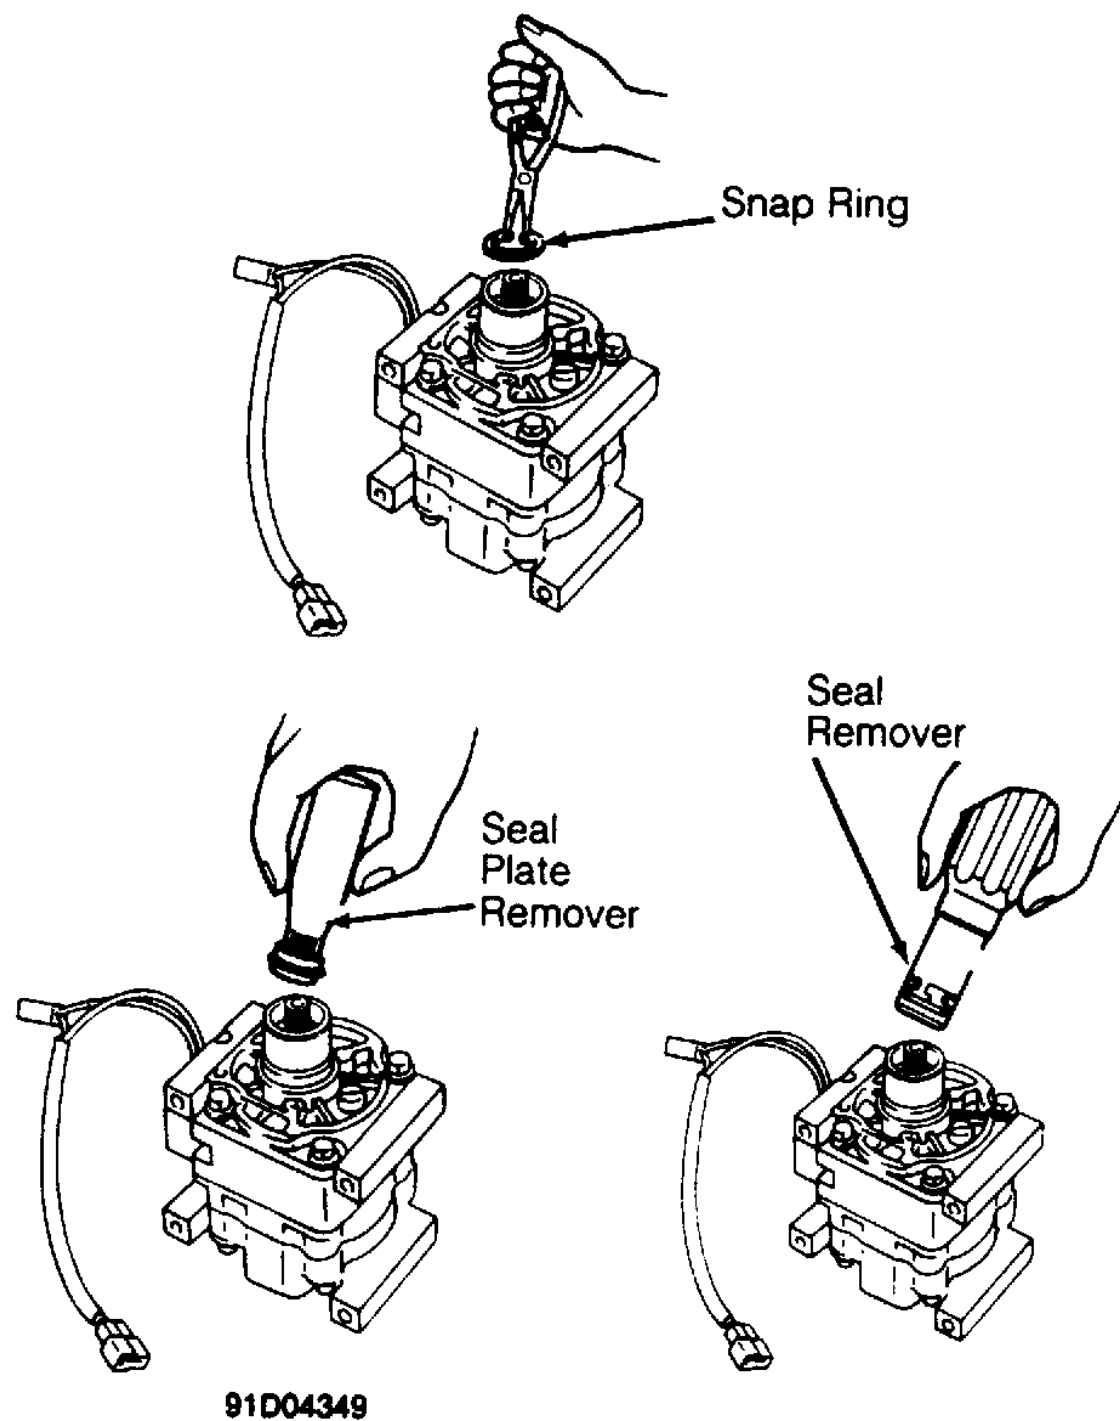

Fig. 16: Removing Rotary Vane Compressor Shaft Seal (Panasonic)
Remove clutch and coil. Remove seal plate snap ring. Using seal plate remover, engage seal and remove seal plate. Using seal remover, engage seal ears and remove seal. See Fig. 16 . To install, reverse removal procedure. Coat new seal plate and seal with clean refrigerant oil before installing. DO NOT touch seal surfaces with fingers.
1. Hold clutch hub stationary and remove shaft nut. Remove clutch plate using puller. Remove external front housing snap ring and internal bearing snap ring. See Fig. 16 .